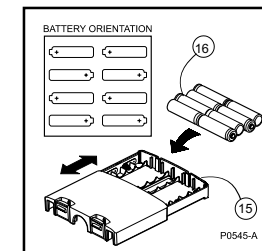

Figure 10 - Replacing the Battery Lid
- c) Place 8 “AA” alkaline batteries (16) into the base of the alkaline pack (15). Ensure they are aligned as shown in figure 10 and as indicated inside the compartment.